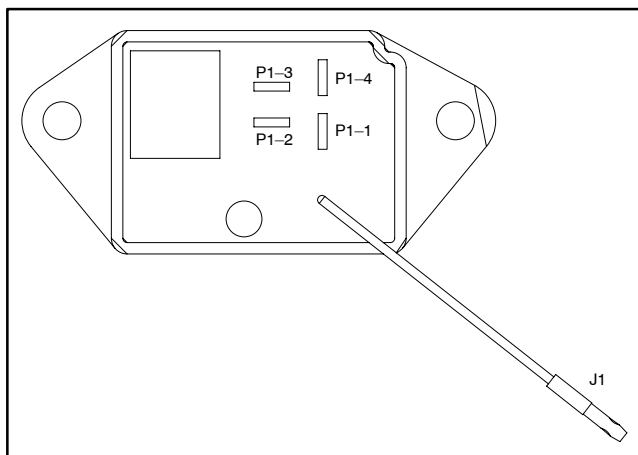

Figure 9
2. Connect multimeter (DC volts setting) leads to module terminals P1-2 (meter + lead) and P1-1 (meter – lead) (Fig. 9).